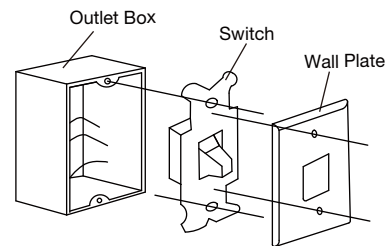

Fig. 29
Step 1. Remove the existing wall plate and the old switch from the wall outlet box. Disconnect wires. (Fig. 29)